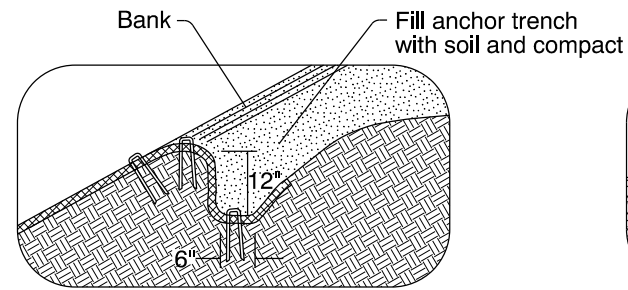

FIGURE A2
5. Anchor top edge of side channel matting in trench and fasten 12" O.C. (Fig. A2).